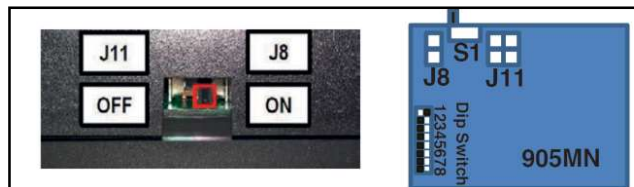

Fig.1 Setting Controller S1 Dipswitch
1. Set S1 dip switches on boiler controllers (Fig. 1)
- a. Managing control in managing boiler away from boiler in "on" position (See Fig.1).